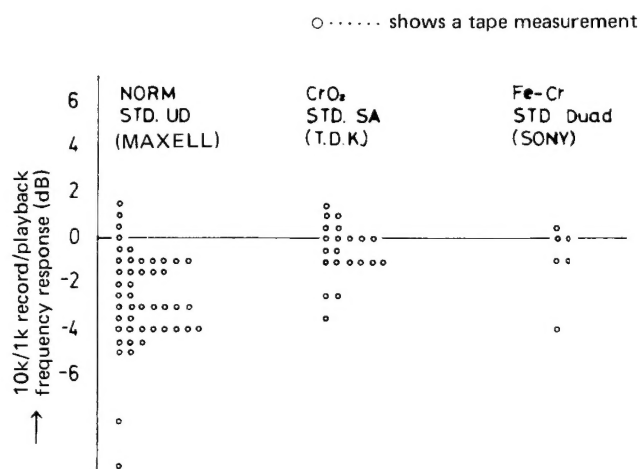

Fig. 2
Fig. 2 shows the measurements for tapes made under the same condition; the equalization should be adjusted to obtain a flat characteristic from the tape with the bias current determined according to the maximum output level characteristic at high frequencies as well as distortion. Conventionally, equalization has been set by a listening test, which requires a great deal of experience to achieve accurate tuning.
7. As shown in Fig. 2, the tape is rewound to the point where non-signal recording was performed for 1.5 seconds at the beginning of the recording as described in step 6.